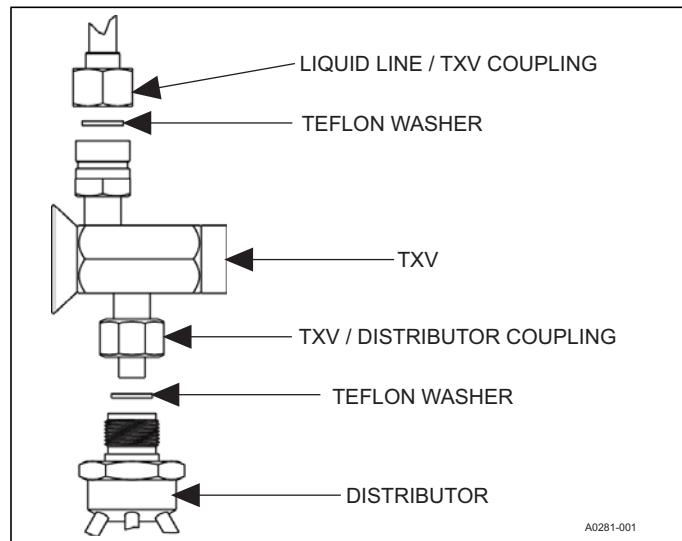

FIGURE 6: TXV Installation
4. Install the thermal expansion valve to the distributor assembly with supplied fittings. Ensure Teflon washer is seated in distributor. Hand tighten and turn an additional 1/4 turn to seal. Do not over tighten fittings. See Figure 6.